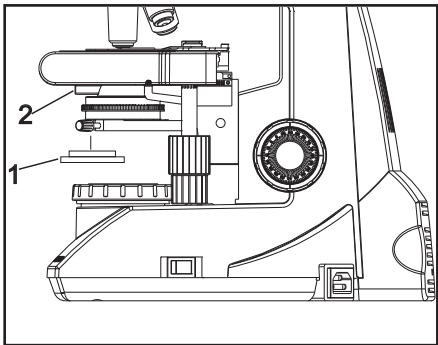

Fig 11a
Fit the filter (1) into the bottom of the condenser (2) until it clicks into place. (Figure 11a).